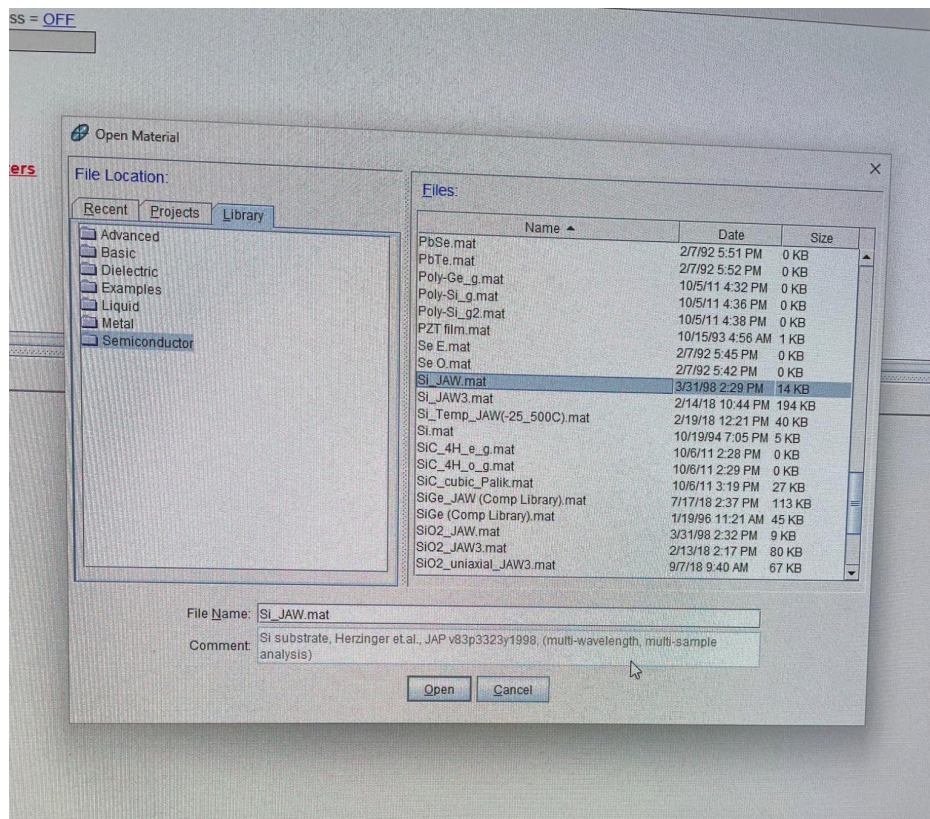

Figure 7: Browse the Library to Find Your Substrate Material
- 8.2.3. After clicking “none”, an “Open Material” window will appear. Click on the “Library” tab. You will see a list of folders that organize types of substrates. The “Semiconductor” folder has many common materials, including Si. There may be several options for a layer, such as for Si we can see there are four. It doesn’t really matter which of these you chose, but when you click on any one you can read about its data origin in the comment box at the bottom of the window. **Figure 7.**